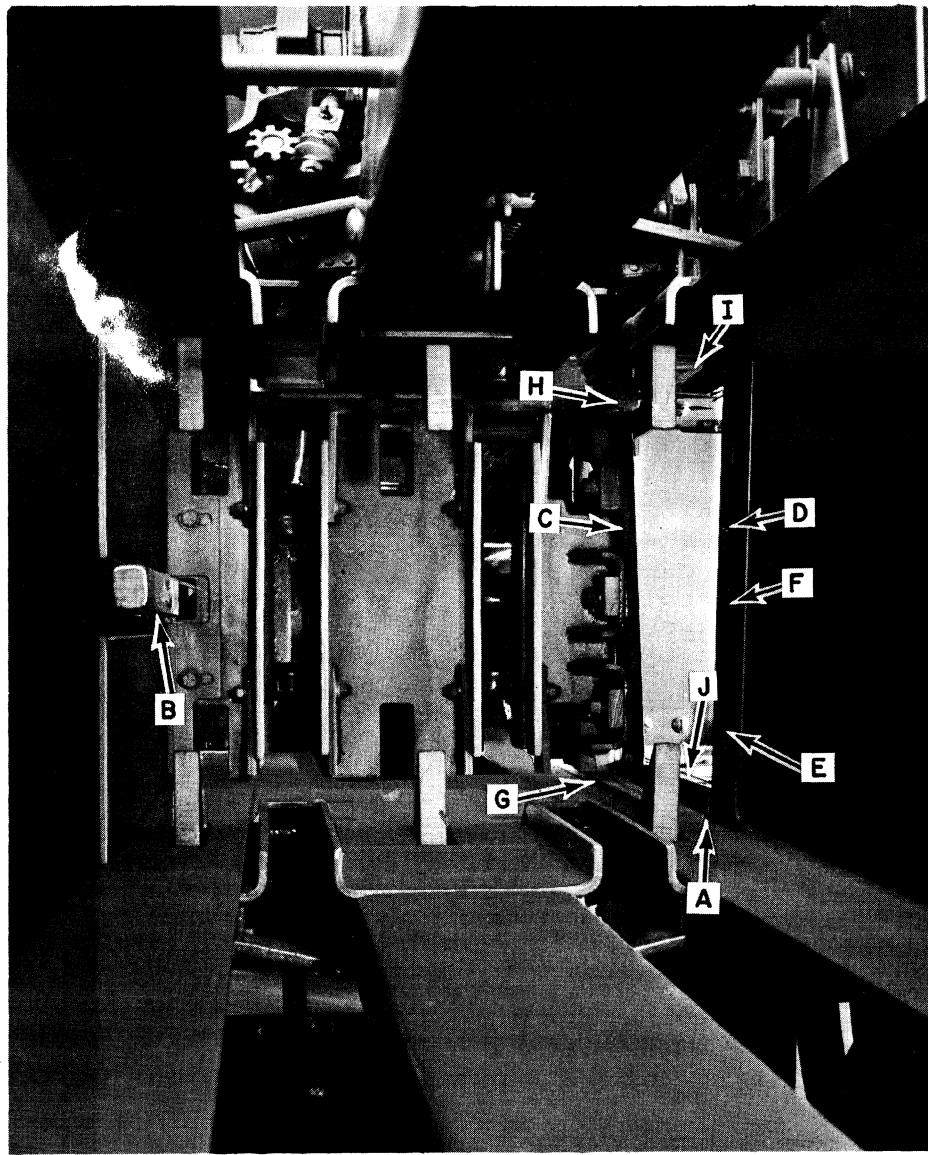
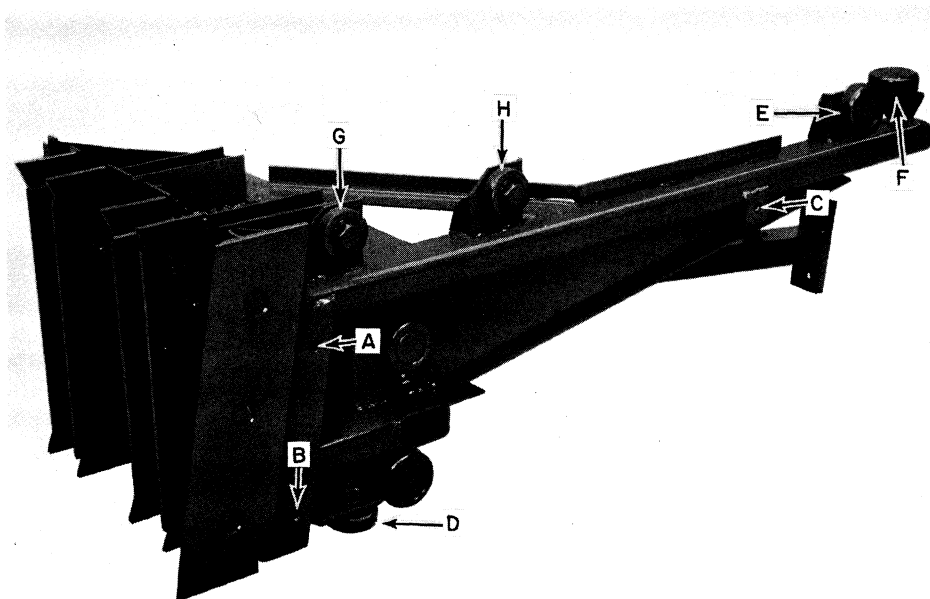
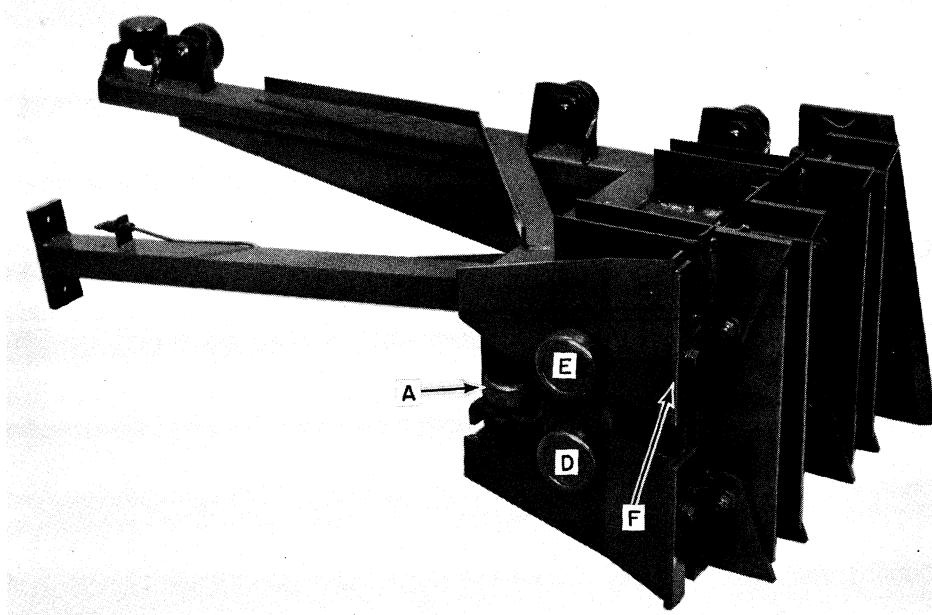

FIGURE 47
FIGURE 48
FIGURE 49
When properly adjusted, distance between the knife mounted on the plunger at C, Figure 47, and the stationary knife, D, Figure 47, should be from 0.010"-0.030" (0.3-0.8 mm) when measured at the points where the knives cross near the bottom, the center, and the top.
Figures 48 and 49 show the plunger removed from the baler. In Figure 48, bearings, D, G and H, are adjustable. In Figure 49, bearings, D and A, are adjustable.
1. Install the stationary knife to the bale case as shown at D, Figure 47.
2. Lay a straight edge along rail, J, Figure 47, and measure the distance between the straight edge and lower portion of the knife at A, Figure 47. There should be between 0.005"–0.015" (0.1–0.3 mm) clearance between the straight edge and bottom of the knife. Remove or install shims as required under bolt, F, Figure 47, until the correct clearance is obtained.
3. Install the knife on the plunger as shown in Figure 48, using two of the thin shims between the knife and knife supports on the plunger. Tighten the bolts to 82 ft. lbs. (111 N·m) torque.
6. Check the clearance between the top of the plunger and the top of the bale case on the top right hand corner of the plunger. This distance should be from $\frac{1}{8}$ "– $\frac{1}{4}$ " (0.3–0.6 mm) from the top of the bale case. If the clearance is more than $\frac{1}{4}$ " (0.6 mm) shims are available to install under rail, G, Figure 47.
7. After obtaining the correct clearance on the top right of the plunger, check the clearance at the top left side of the plunger. Adjust rail, B, Figure 47, until the top of the plunger is parallel with the top of the bale case. Bolts, F, Figure 45, are used for this purpose. Be sure that rail, B, Figure 47, is parallel to the bottom of the bale case so that the plunger does not try to twist as it moves through its cycle.
8. Bearing, D, Figure 49, should be adjusted vertically so there is from 0.010"–0.030" (0.3–0.8 mm) clearance between bearing, D, Figure 49, and rail, B, Figure 47.
9. Adjust rail, A, Figure 51, so the clearance between bearing, E, Figure 48, and rail, C, Figure 51, is 0.010"-0.030" (0.3-0.8 mm). Bolts, A, Figure 52, are used for this adjustment.
10. Adjust rail, B, Figure 51, so there is 0.010"-0.030" (0.3-0.8 mm) clearance between the bearing, F, Figure 48, and rail, B, Figure 51. Bolts, B, in Figure 52, are used in this adjustment.
11. Adjust bearing, D, Figure 48, so there is 0.005"-0.015" (0.1-0.3 mm) clearance between the tip of the knife and the rail, J, Figure 47. Be sure that bearing, D, Figure 48, is against the rail, J, Figure 47, when checking the clearance.
12. Bearing, A, Figure 49, should now be adjusted to rail, B, Figure 47. Access to the bearing is obtained through a hole in the side of the bale case as illustrated in Figure 50. Loosen lock nut, B, Figure 50, and rotate cam, C, Figure 50, to adjust bearing, A, Figure 49, to within 0.010"-0.030" (0.3-0.8 mm) clearance between the bearing and the rail, when bearing, D, Figure 48, is against rail, J, Figure 47.
14. Adjust bearing, H, Figure 48, to rail, H, Figure 47. The clearance between the bearing and the rail should not exceed 0.030" (0.8 mm) at any point in the plunger travel.
15. Adjust bearing, G, Figure 48, to rail, I, Figure 47. The clearance between bearing, G, and rail, I, should not exceed 0.030" (0.8 mm) at any point along that short rail.
16. The plunger shield may now be installed. It is secured with three bolts located at A, B and C, Figure 48.
17. Adjust plate, F, Figure 49, to the left so it clears the side of the bale case by 1/32" (0.8 mm) at the closest point of the plunger to the bale case throughout the plunger's travel.